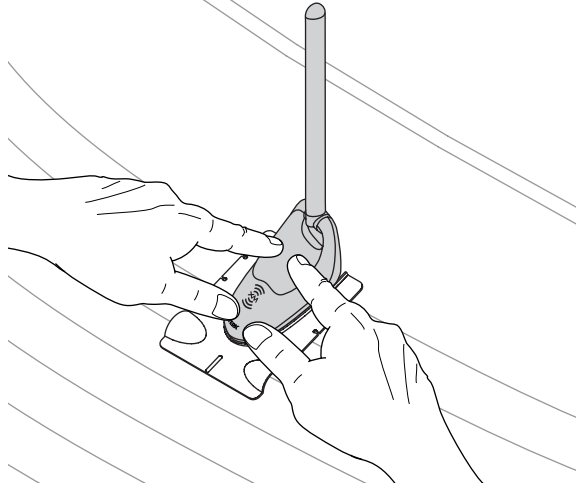

Figure 11. Firmly pressing down on the Main Antenna Unit.
7. With the template properly located, peel off the protective backing from the Main Antenna Unit. Starting with the front, carefully place the unit into the template and, using steady pressure, firmly press the Main Antenna Unit down onto the glass for a minimum of 60 seconds, as shown in Figure 11.